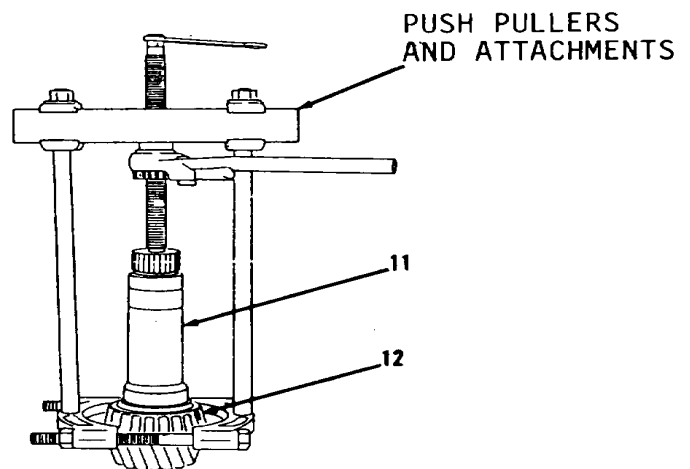

Figure 14-139.
7. Using push pullers and attachments, remove cone bearing (12) from shaft (11, Figure 14-139).